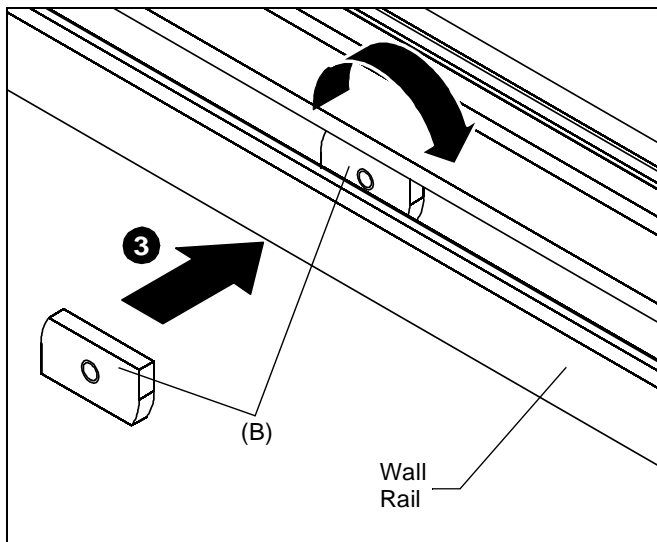

Figure 2
3. Insert adapter latch (B) into wall rail and turn upright. (See Figure 2)